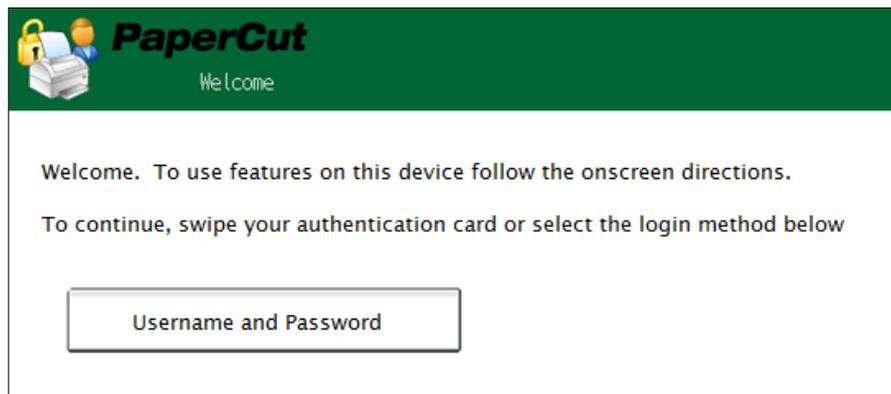

Figure 46: Welcome screen on MFDs with SDK 2.
- The PaperCut application then attempts to connect to the PaperCut server. If it successfully connects, you will be presented with the **Welcome** screen (see Figure 46).